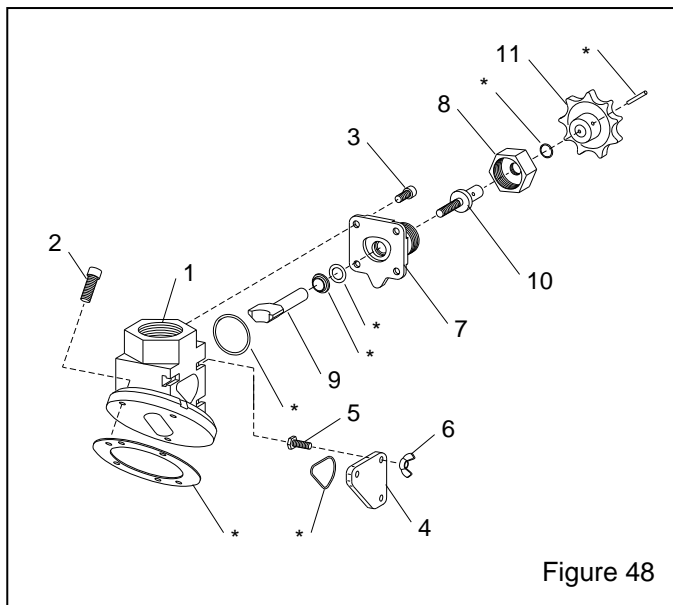

Figure 48
9.5 Auto-Quantum Metering Segment, Figure 48